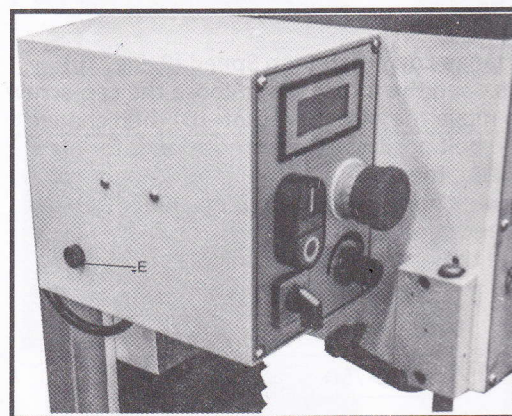

Fig.13
**Fuse Base(E, Fig. 13)** located on the back plate of electrical box. Fuse what rate is 12A is put in the base. Turn counter-clockwise the button to open and change the fuse, reverse to retighten.